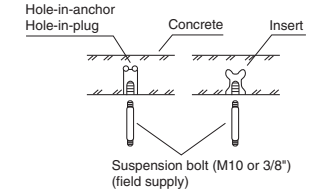

Fig. 3-17
- Insert suspension bolts as shown in Fig. 3-17